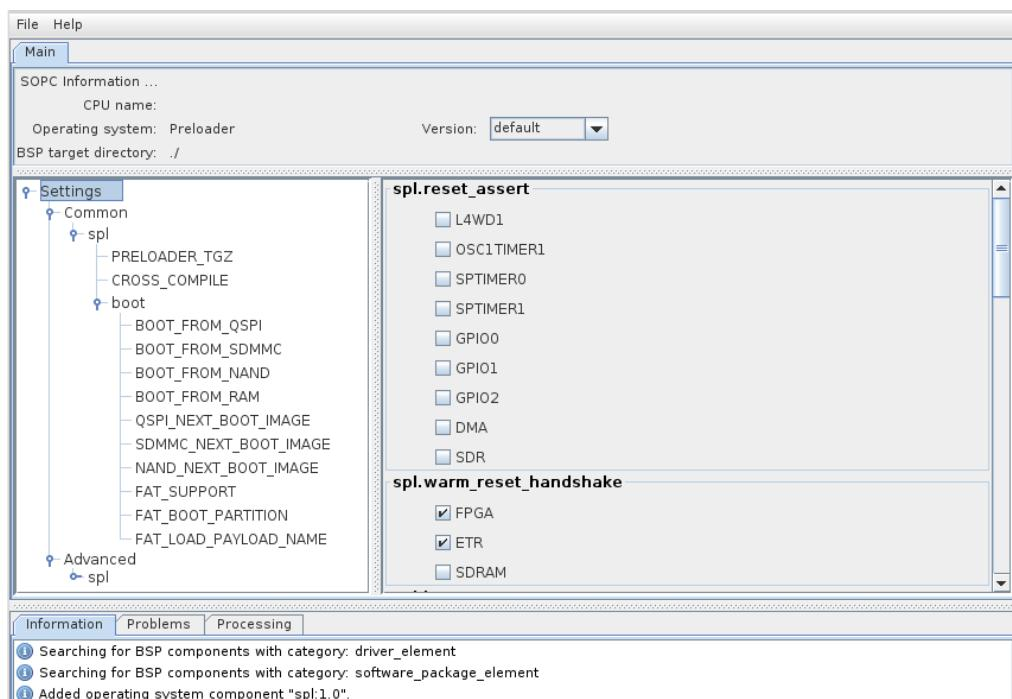

Figure 8-26. Preloader Settings Dialog
- c. Press the “OK” button. You should then arrive on a page with many settings, as shown on Figure 8-26. Take some time to read through them to see what the preloader has the ability to do.
- 4. On the main settings page of Figure 8-26, we will only need to modify 3 parameters for our design.